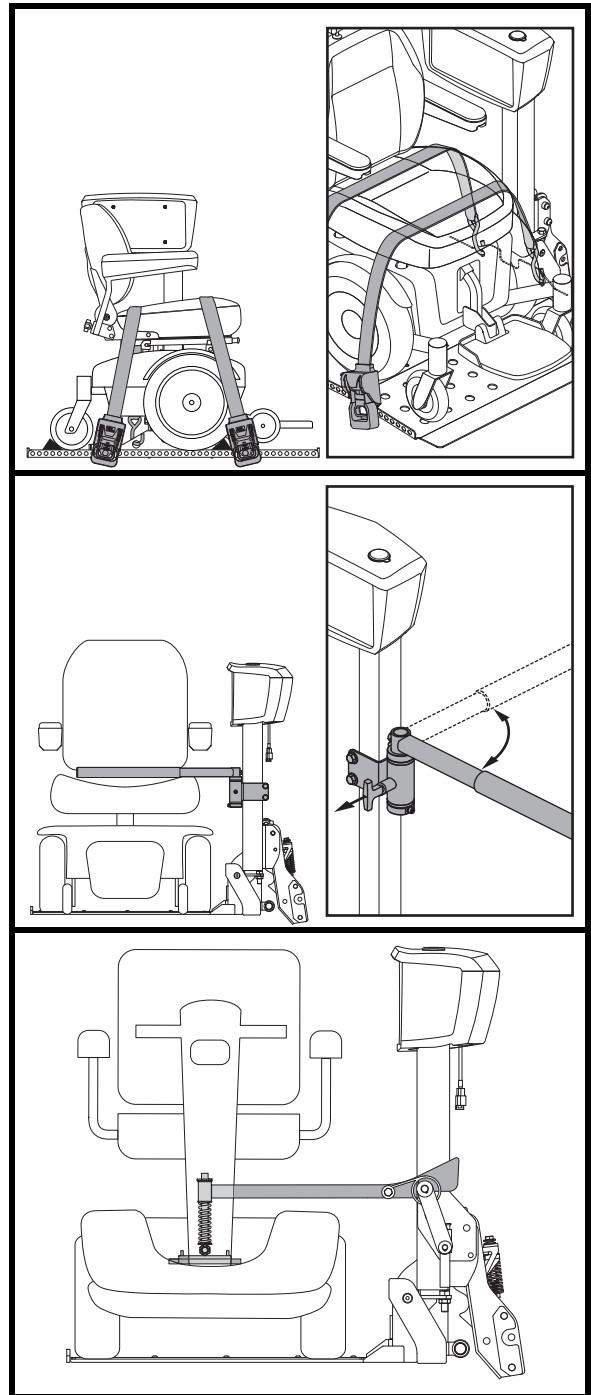

Figure 17. Securement of the Unit
- Pull the strap out and secure it to the opposite side of the platform. See figure 17.